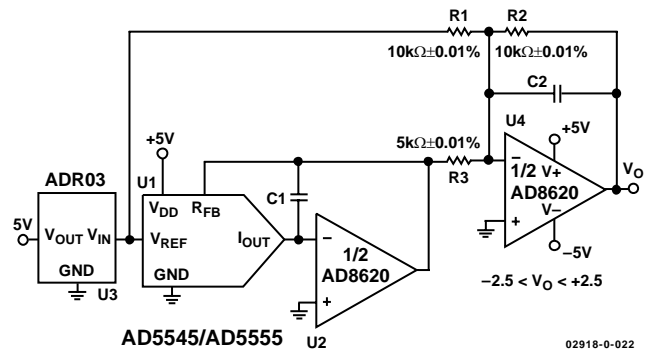

Figure 22. Four-Quadrant Multiplying Application Circuit
In some applications, it may be necessary to generate the full 4-quadrant multiplying capability or a bipolar output swing. This is easily accomplished by using an additional external amplifier, U4, configured as a summing amplifier (see Figure 22). In this circuit, the second amplifier, U4, provides a gain of 2, which increases the output span magnitude to 5 V. Biasing the external amplifier with a 2.5 V offset from the reference voltage results in a full 4-quadrant multiplying circuit. The transfer equation of this circuit shows that both negative and positive output voltages are created because the input data (D) is incremented from code zero ($V_{OUT} = -2.5$ V) to midscale ($V_{OUT} = 0$ V) to full scale ($V_{OUT} = +2.5$ V).